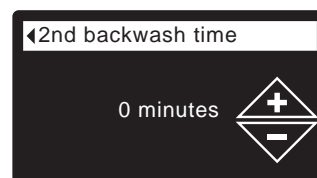

FIG. 78
- 8e. **Second backwash time:** Press the UP (▲) or DOWN (▼) buttons to change the second backwash time. Hold the button down to rapidly advance. The time can be set from 0 to 15 minutes (See Figure 78).